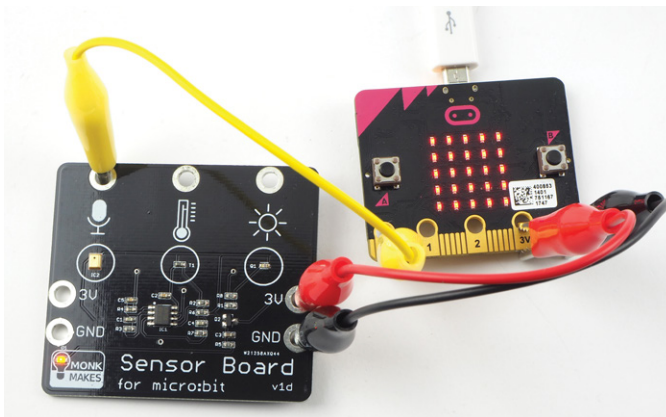

Figure 2-8: The Shout-o-meter project
1. Connect the sensor board to the micro:bit using the three alligator clips, as shown in Figure 2-8. You need to connect 3V on the sensor to 3V on the micro:bit, GND to GND, and the hole with the microphone picture to pin 0 on the micro:bit.